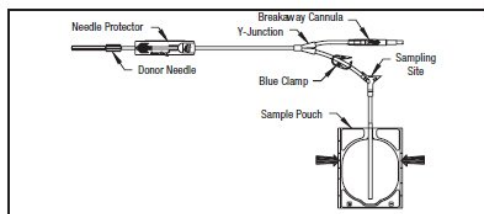

Figure 1
- **If less blood sample volume is required, the flow to the sample pouch may be stopped prior to completely filling the pouch. For example, in order to target a fill volume of approximately 40 mL, fill to the level indicated by the arrows in Figure 1. Ensure the pouch is hanging vertically.**